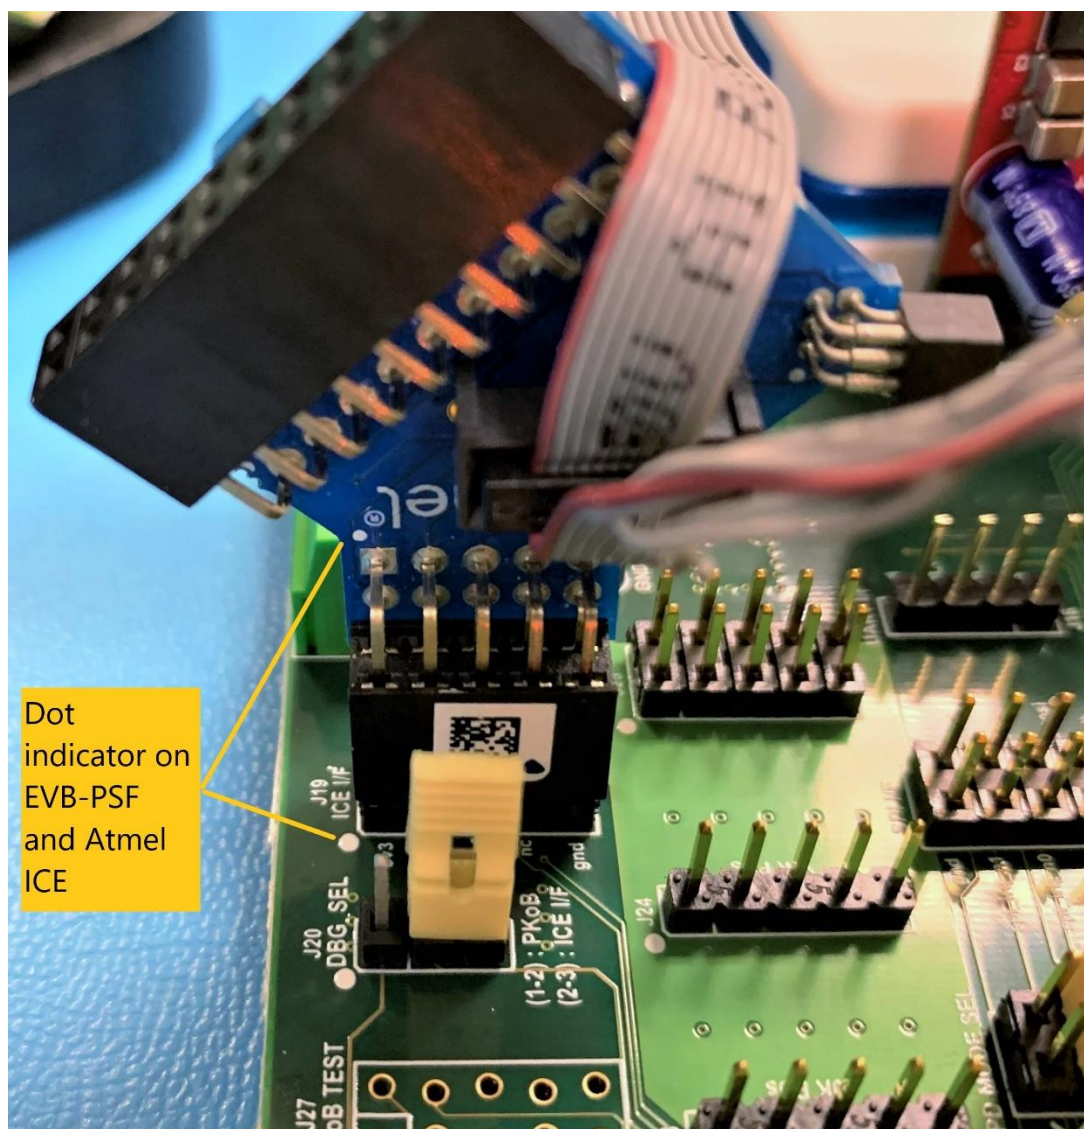

Figure 5.4 Programming using Atmel ICE (Optional)
5. Optionally, Atmel ICE can also be used for programming the board by connecting it to J19 as shown in the figure 5.4. Please ensure the jumper is switched to 2-3 on J20 while using Atmel ICE.